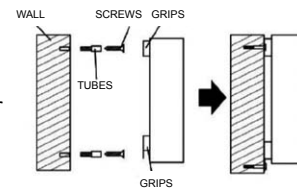

Fig. 4
3. Set up grips with screws (Fig. 4)